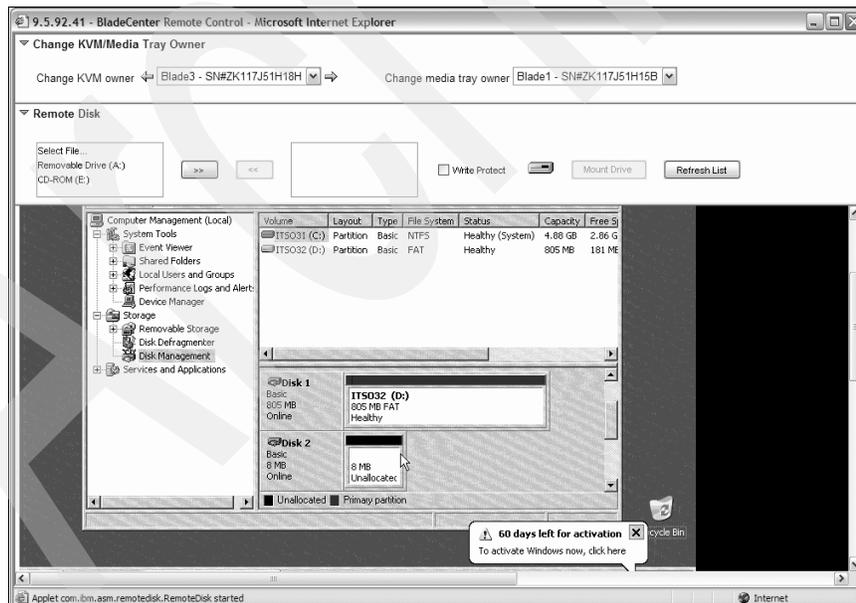

Figure 4-71 From Remote Control, viewing new disk on Blade server
- iv. Look on the bottom panel for additional disk that shows as unallocated (Figure 4-71).